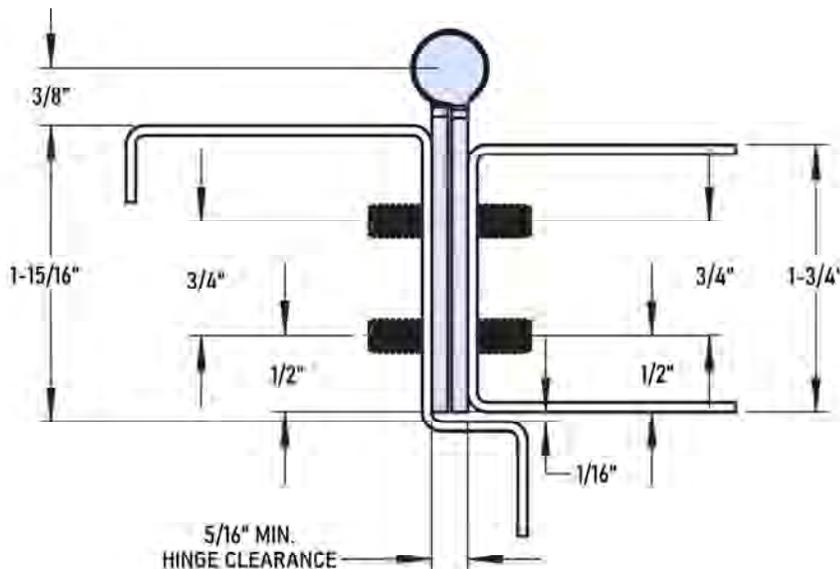

Fig. 2
- B. Mark and center punch each hole on the door with the hinge held firmly in place (Fig.2). Remove the hinge from the door and prepare to drill the door.